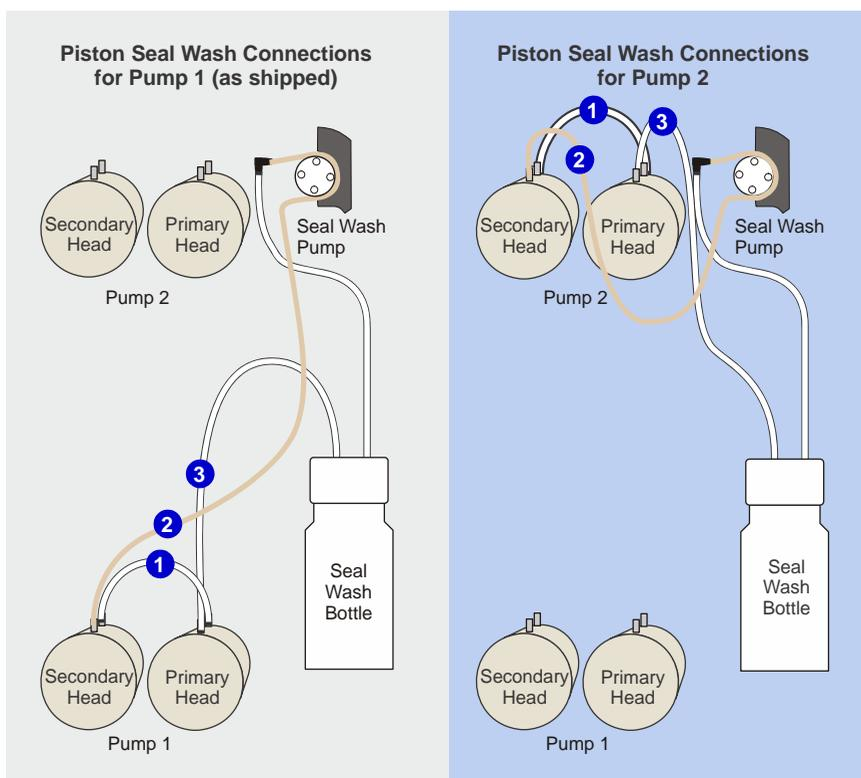

Figure A-5. DP Piston Seal Wash Connections (Pump 1 or Pump 2)
1. To connect the seal wash system to pump 2, disconnect three piston seal wash lines from pump 1 (see Figure) and reconnect the lines to their respective locations on pump 2 (see Figure A-5).